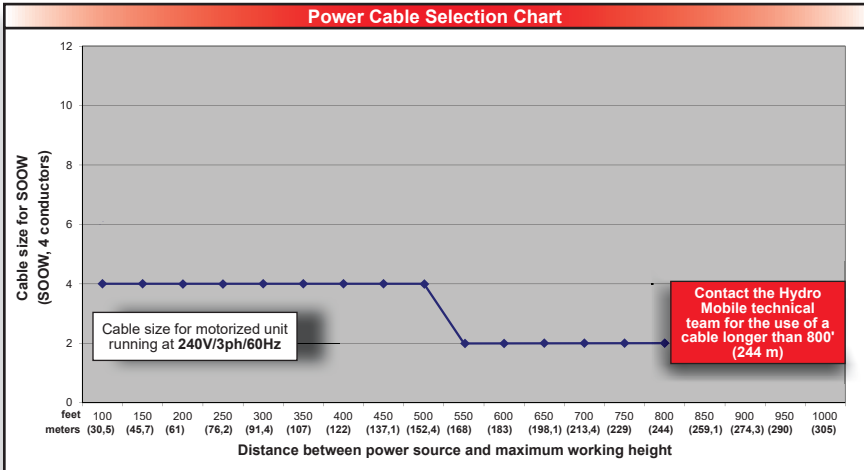

fig. 4.1
- 1- Select a power cable that is suitable for the height of the installation. **The installation of the power cable must be performed by a certified electrician.** Refer to the *Power Cable Selection* chart (fig. 4.1) to select the appropriate power cable for the installation. Make sure that the overall length of the cable is sufficient for the installation (height of mast, distance from power source, acceptable overall slack in cable). Contact the Hydro Mobile technical team if a cable longer than 800' (244 m) is required.